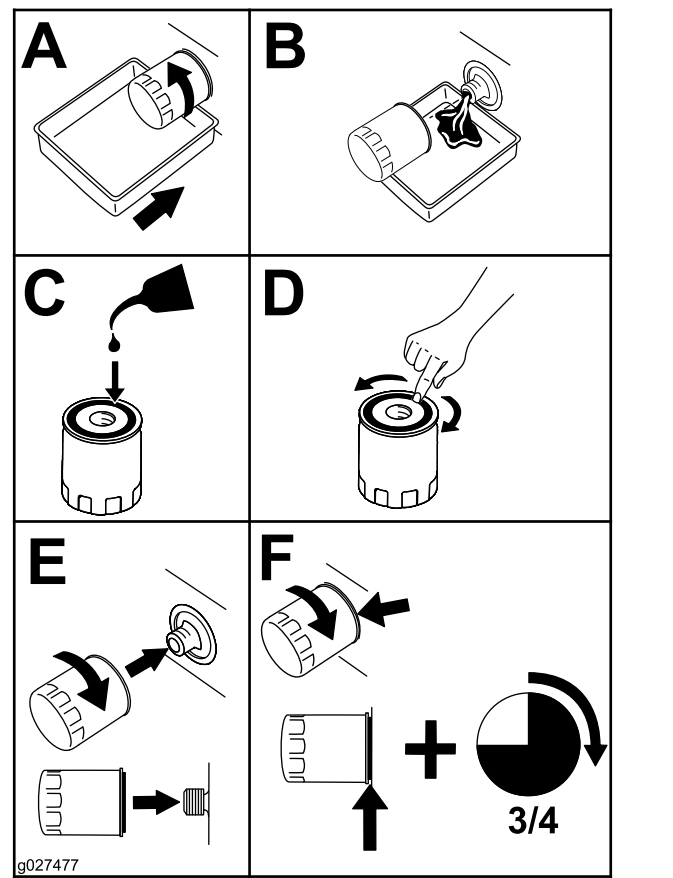

Figure 21
3. Remove the engine-oil filter (Figure 21). After the oil is drained, install a new oil filter.